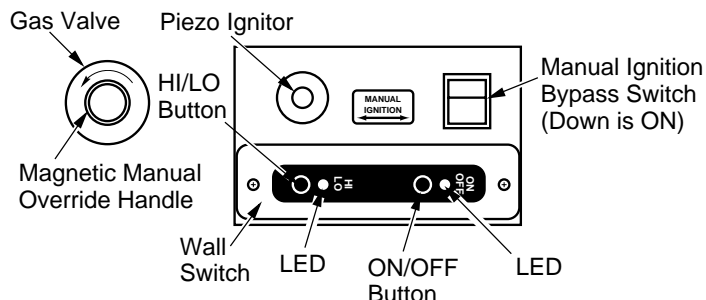

Figure 50 - Control Locations
2. Set manual ignition bypass switch on control panel to ON position (manual ignition position). See Figure 50.
4. Place the magnetic manual override handle, provided with this unit, on the end of the gas valve stem (see Figure 50).
6. While holding the valve handle in the PILOT position, press and release piezo ignitor button (see Figure 50). This will light the pilot. If needed, keep pressing ignitor button until pilot lights.